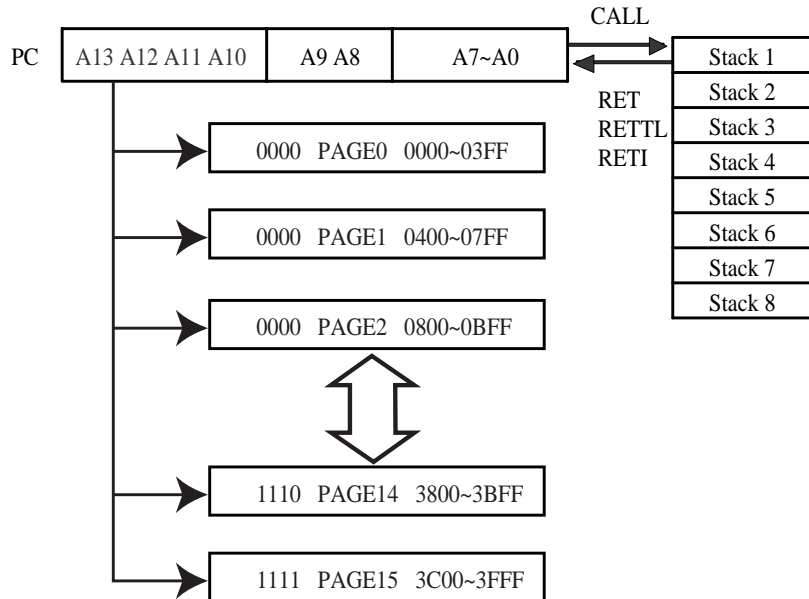

Fig. 4 Program counter organization
- The structure is depicted in Fig. 4.
- See the configuration of the data memory in Fig. 4.